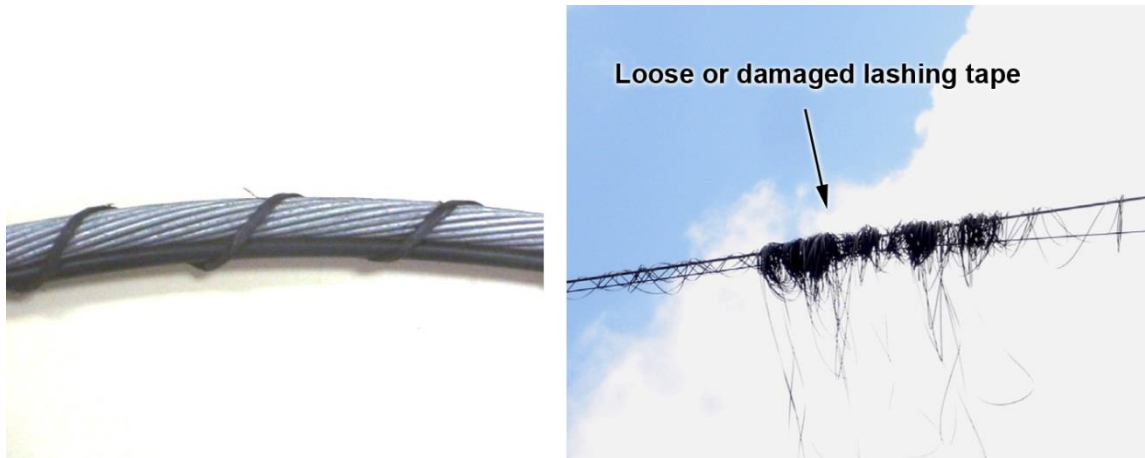

Figure 3: Fibre Optic Cable secured on the earth wire
- b) Check the fibre optic cable / line for loose and missing vibration dampers (see figure 3).
- d) Check the fibre optic cable for broken lash tape that has uncoiled or damaged and coming loose (refer to figure 3 above).